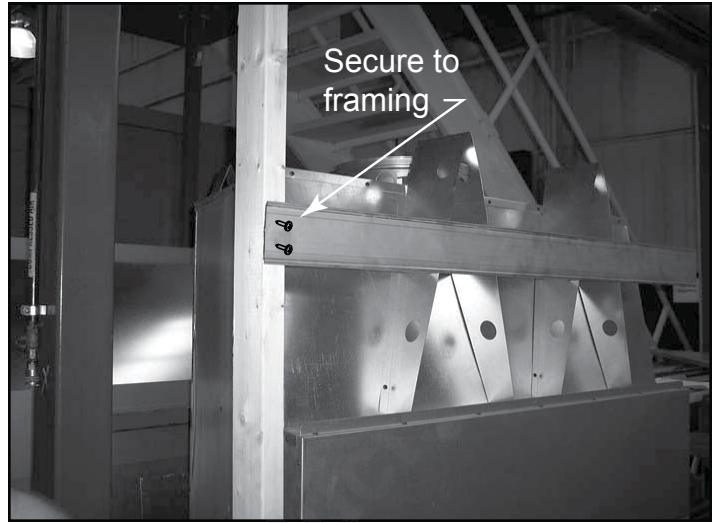

Figure 12.14 Secure to Framing
- Place the track into the notches (shown in Figure 12.13) on the front standoffs and secure to the framing on both sides of the fireplace (Figure 12.14).